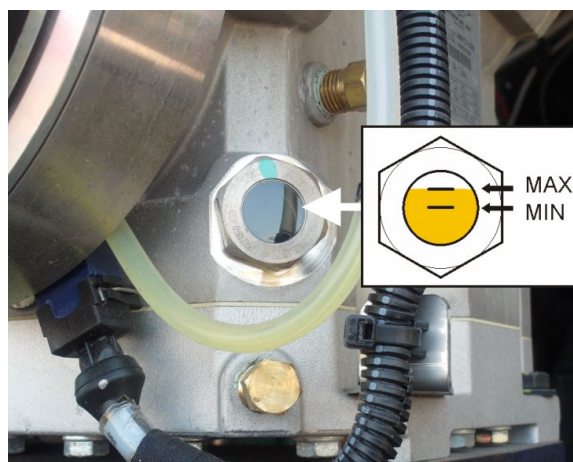

FIGURE 45: R.H. SIGHT GLASS
- R.H. sight glass: between $\frac{1}{2}$ and $\frac{3}{4}$ of sight glass height (Figure 45).